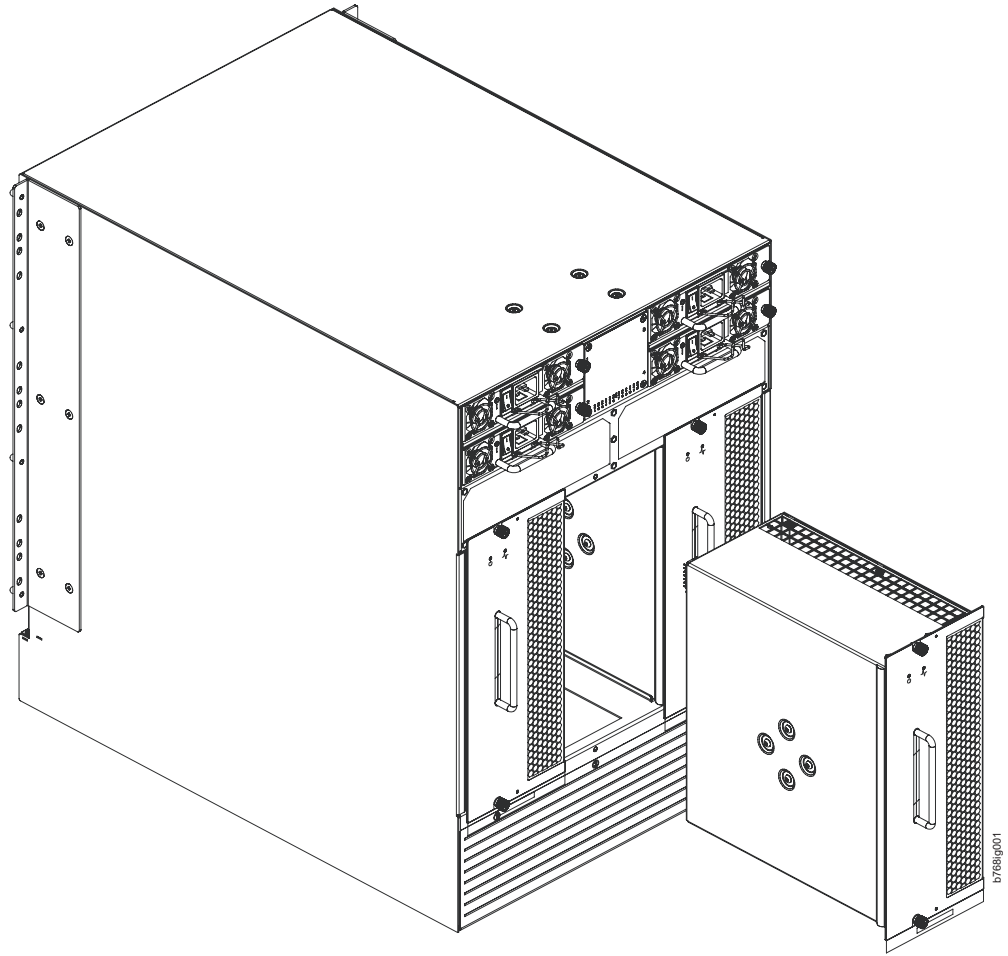

Figure 39. Removal and replacement of the blower assembly
2. Use the Phillips screwdriver to loosen the captive screws at the top and bottom of blower assembly (see Figure 39 on page 103).